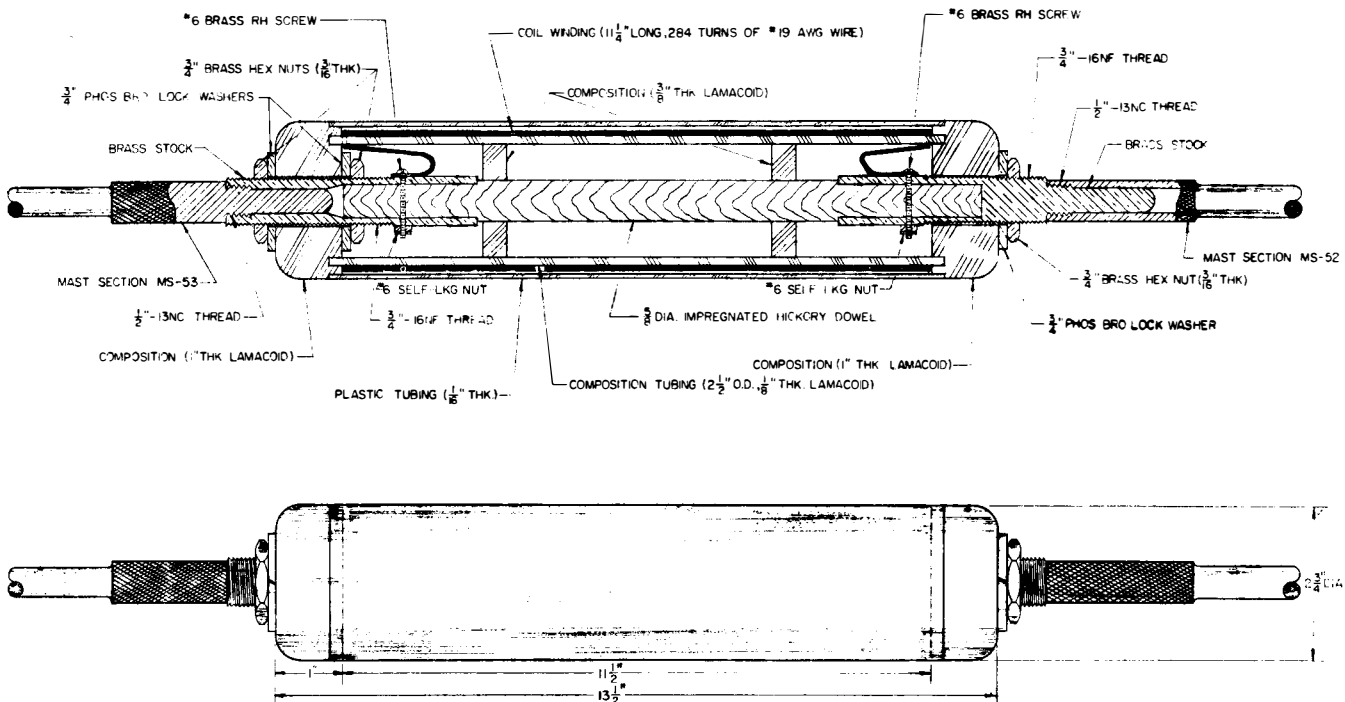

Figure 4-2. RF Coil
d. RF COIL.—Figure 4-2 shows the construction of the RF Coil. The characteristics are as follows: